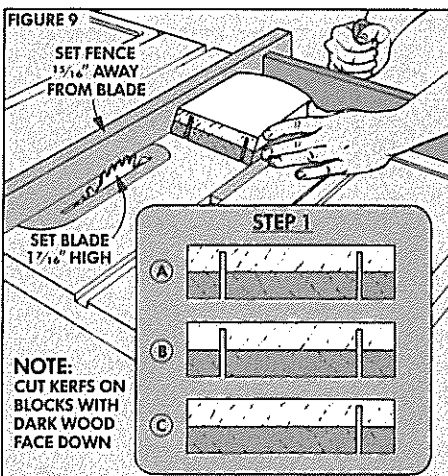

FIGURE 10
**THE HORIZONTAL GROOVES.** Once the border is routed, clean out any dust or chips from the jig. Then place one of the 11"-long spacer blocks inside the jig against the top fence, see Fig. 10. (Note: Keep the face of the plywood spacer block up and the sawcut edges to the sides.)
spacer block is  $\frac{3}{4}$ " wide, the center of this groove should be  $\frac{3}{4}$ " from the center of the border groove, see Fig. 10.
**MORE KERFS.** Now use the same procedure to cut another set of kerfs with the fence  $1\frac{15}{16}$ " from the blade, see Fig. 10.